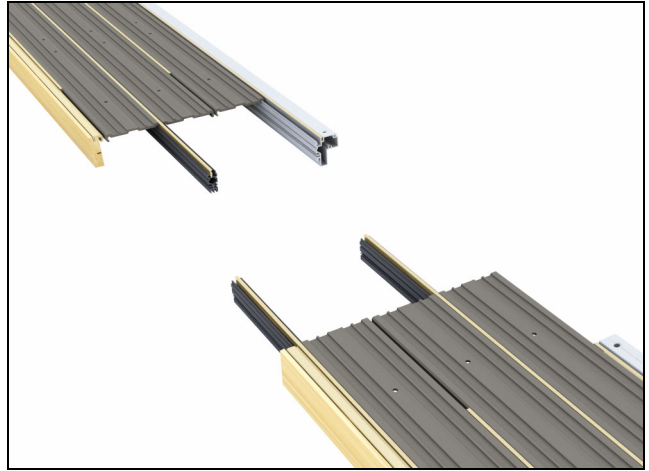

Figure 10
3. Flip the head jamb sections over so the top side is facing up. See figure 10.